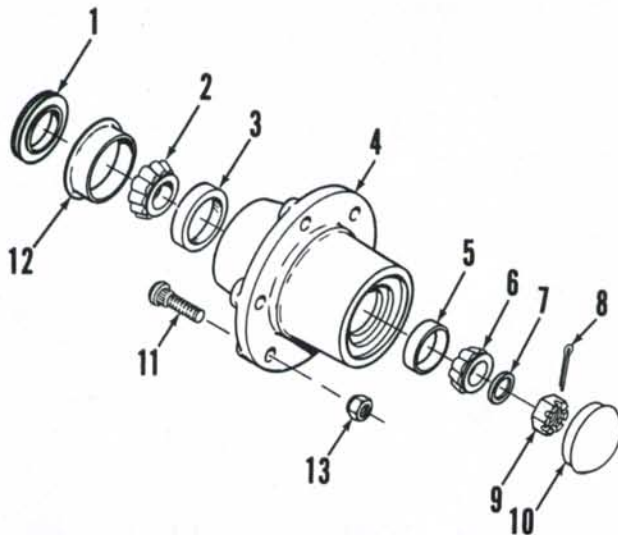

Fig. 1—Exploded view of front wheel hub and bearings used on all two-wheel drive models equipped with adjustable front axles.
1. Refer to Figs. 1 and 2 for typical wheel hub and bearing assemblies.
Check oil seal (1—Fig. 1) and renew as necessary as outlined in paragraph 1. Install hub and adjust bearings as in paragraph 1.